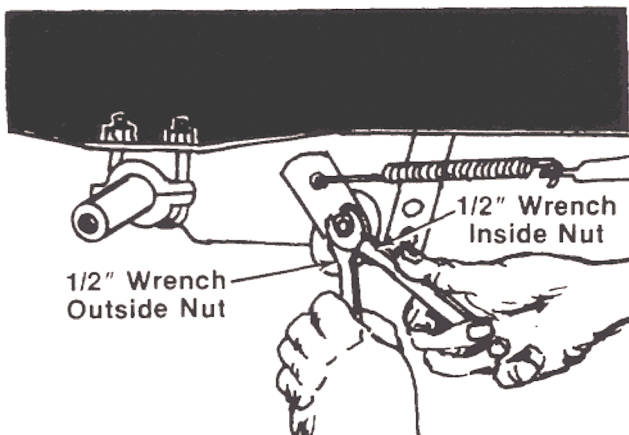

FIGURE 22.
3. Tighten the outside nut against the inside nut, using two 1/2" wrenches. See figure 22.